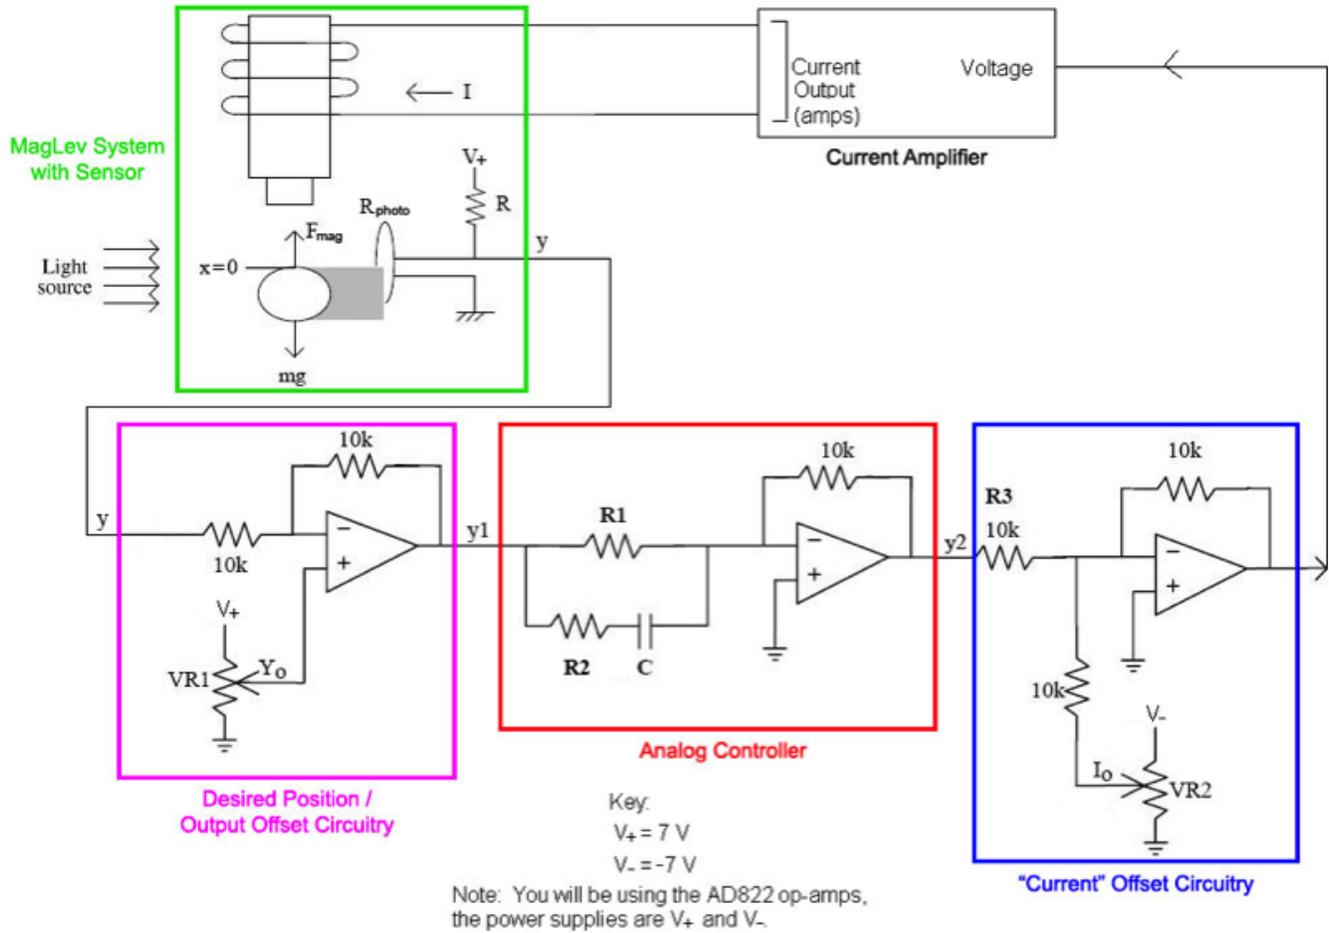
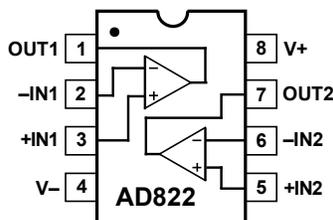

Figure 3: Block diagram of the magnetic levitation setup with circuit level details.
Figure 4: Connection Diagram for the AD822 OpAmp.
Figure 3 on the next page of these instructions shows a block diagram of the magnetic levitation setup with circuit level details. You will be picking values for R_1 , R_2 , and C to stabilize the steel ball around an equilibrium point. The potentiometers will be used to calibrate the photoresistor and the current offset to the equilibrium point.
Let $y_{ref} := Y_0$ in the left box in Figure 3. This is the reference voltage that you will adjust using a potentiometer. Derive the following relationship between the signal y_1 , the voltage y from the photoresistor and the reference voltage y_{ref} :
Derive the following transfer function of the analog controller in the red box in Figure 3:
In the current offset circuit in the blue box in Figure 3, let $y_i := I_0$ be the voltage drop across the potentiometer and let V_{out} be the output of the op amp. Observe that y_i will be negative. Derive the following relationship:
You will not have to implement the complete circuit given in Figure 3 in this lab, that will happen next week. However, you will be using the current amplifier. The GSI will help you with setting things up. **Do not turn on your circuit involving the current amplifier before checking off with**
- The first offset circuits in Figure 3 is to scale y down to y_1 such that y_1 moves around 0.
4. Measure the range of variation of the resistance of the photo-resistor as the ball's shadow covers from none to the entire resistor surface. Using this data, determine a suitable resistor value R to use in series with the photo resistor (see green system box in Figure 3), given that (a) the supply voltage is $V_+ = 7V$, (b) the fact that the photo resistor must not exceed a power dissipation of 250mW, and (c) you want the difference in y when the ball is covering none of the surface and the entire resistor surface to be $\geq \approx 2V$ in order to ensure adequate SNR. If a resistor is already attached to the sensor circuit, verify that it achieves these specs.
For the second part of this lab, you will build an op amp circuit so that you can get used to debug op amp circuits, which you will build in the next week. For this lab, you need to build “Desired Position/Output Offset Circuitry” in Figure 3. Since we do not connect the photoresistor to the circuit this week, for the voltage y , please use the power supply. You’ll be able to store your circuit with your GSI for use next week.
You will be using Analog Devices AD822 operational amplifiers. The AD822 is a dual precision, low power FET input op amp that can operate from a single supply of 5 V to 30 V or dual supplies of ± 2.5 V to ± 15 V. For a connection diagram, see Figure 4 below. If you need more information, a data sheet is available at http://www.analog.com/static/imported-files/data_sheets/AD822.pdf.
1. Build “Desired Position/Output Offset Circuitry” in Figure 3 (Op-amp pinout is in Figure 4)